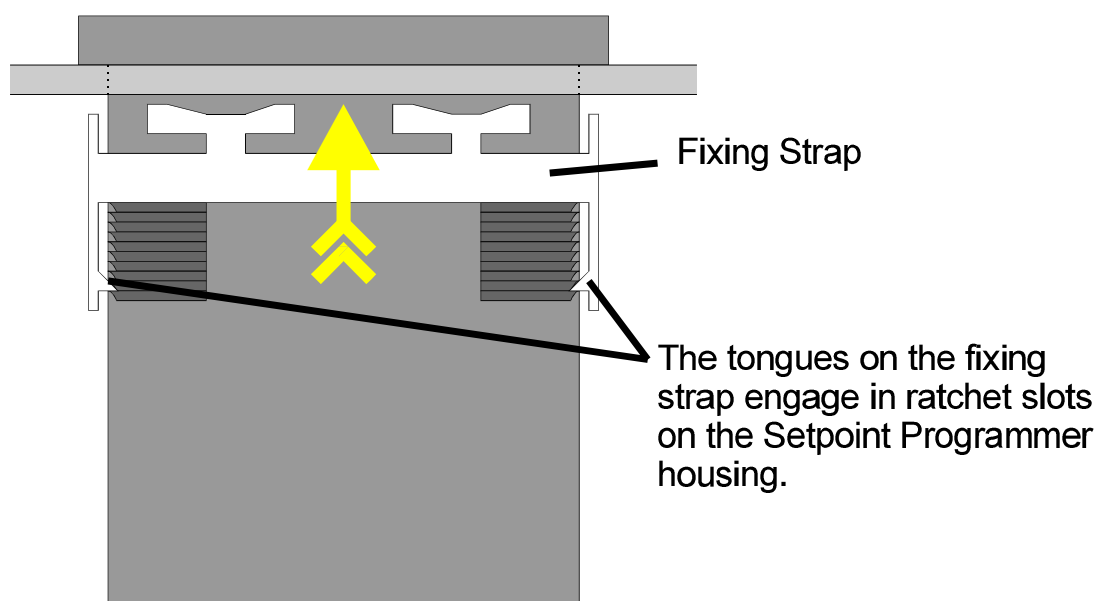

Figure 2-3 Panel-mounting the Setpoint Programmer
2. Slide the fixing strap in place (see Figure 2-3) and push it forward until it is firmly in contact with the rear face of the mounting panel (the tongues on the strap should have engaged in matching ratchet positions on the Setpoint Programmer housing and the fixing strap springs should be pushing firmly against the mounting panel rear face).